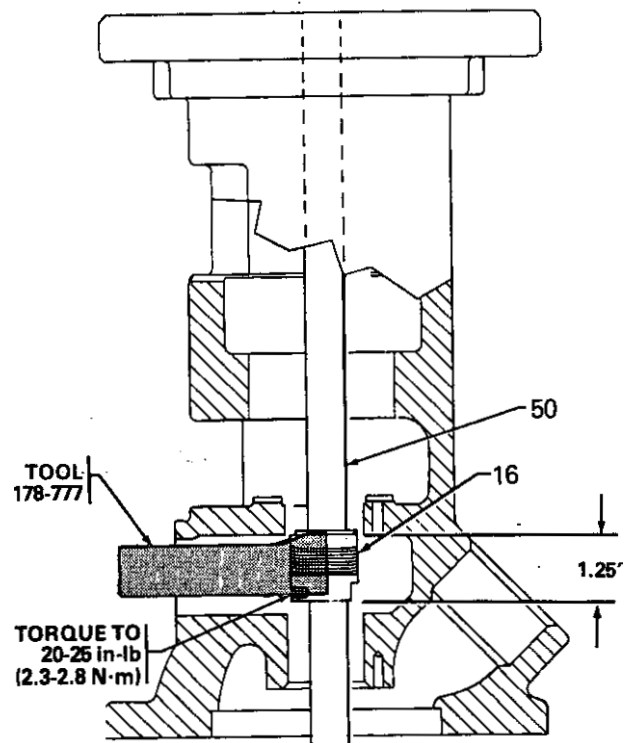

Fig 9
Gently compress the bellows of the face seal, then place the wide end of the tool parallel to one side of the face seal. Be sure the tool measures from the top to the bottom of the seal. When the proper setting is attained, torque the setscrews in the seal to 20-25 in-lb (2.3-2.8 N·m). Then recheck the setting. Refer to Fig 9.
- b. Use the long-nippled end of the tool to press new bearings into the bowls. This tool maintains the required 0.06 in. (1.6 mm) dimensions of the impeller bowls as shown in Fig 9.